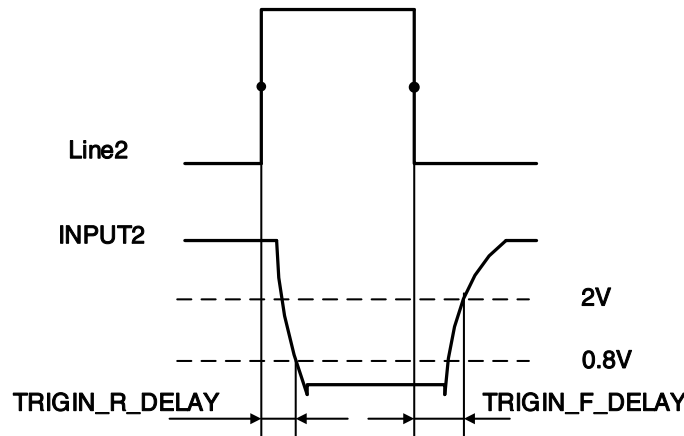

Figure 7-11 Parameter of Line2 input circuit
- Input rising time delay: $< 2\mu\text{s}$ ($0^\circ\text{C} \sim 45^\circ\text{C}$), parameter description as shown in Figure 7-11
- Input falling time delay: $< 2\mu\text{s}$ ($0^\circ\text{C} \sim 45^\circ\text{C}$), parameter description as shown in Figure 7-11